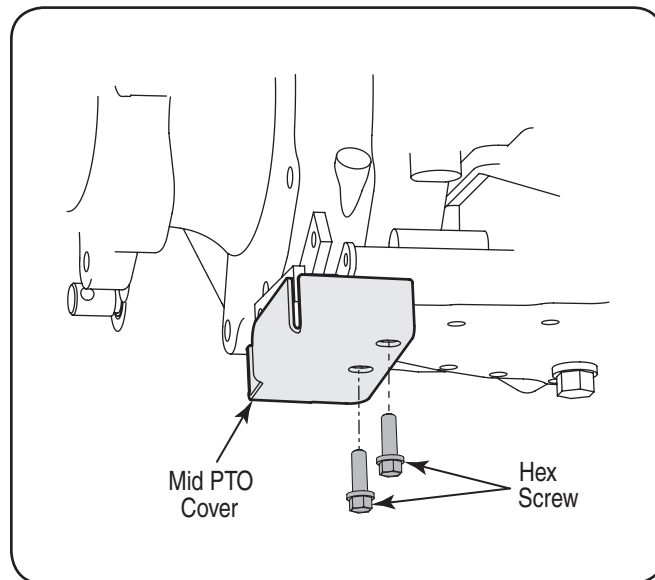

Figure 8
- From the rear of the tractor, locate the two rearmost hex screws in the bottom/left of the transmission housing. Remove the two screws. Refer to Figure 8.
- Position the mid PTO cover so that it cups the mid PTO linkage at the left lower/rear of the transmission, and align its two mounting holes with the holes in the bottom of the transmission housing. See Figure 8.